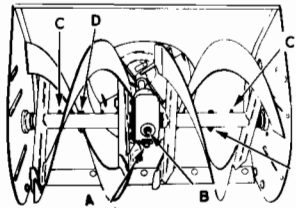

Figure 2.
To drain and refill, remove fill plug (B), remove drain plug (A) and allow oil to drain. Tip machine back on handlebars. Pour oil into fill hole (B) until it starts to run out of drain hole. See figure 2.